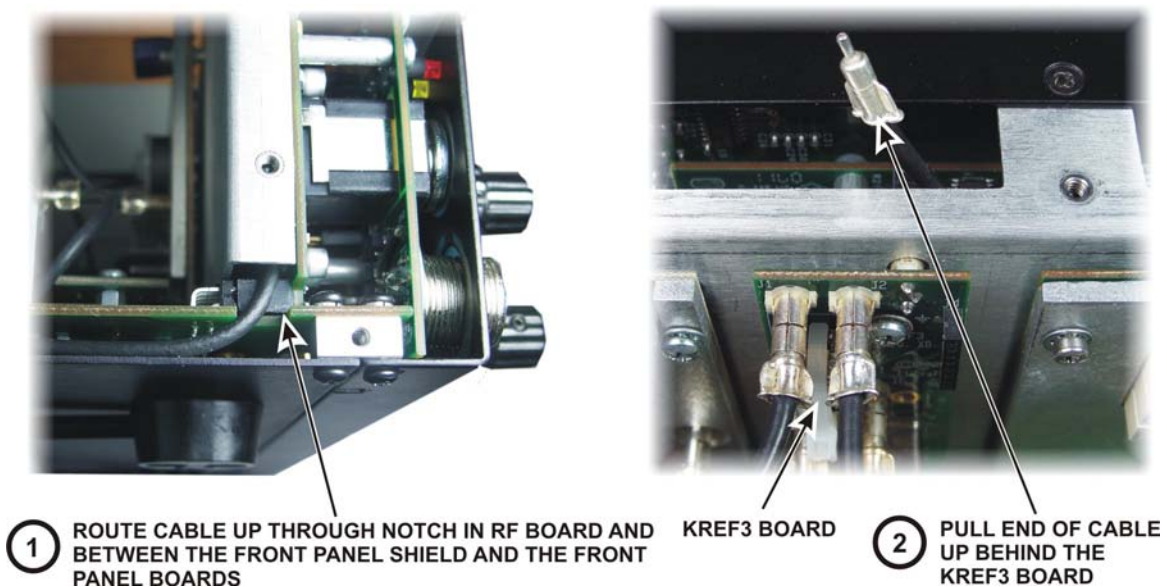

Figure 5. Routing the SMA Cable Behind the Front Panel.
- ☐ Route the cable through the notch near the front of the RF board and up between the front panel shield and the front panel board assembly. Bring the end of the cable up above the front panel shield behind the KREF3 board as shown in Figure 5.